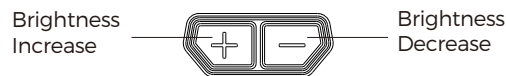

Fig 6
1) Switch on: Momentarily press either brightness button ("+" or "-") to turn on the red dot sight. (See Figure 6)